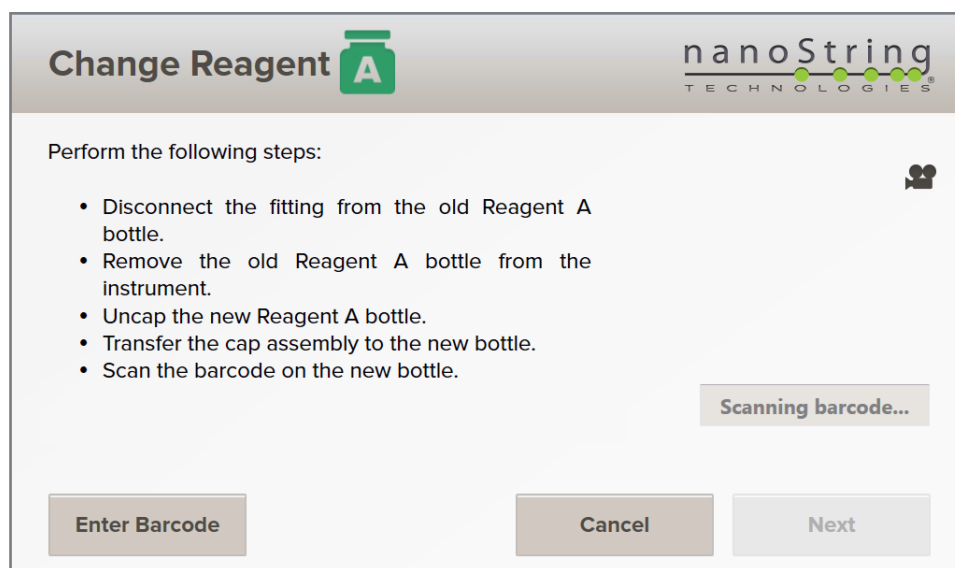

FIGURE 7.5 The first Change Reagent screen for Reagent A (green bottle).
The Change Reagent screen appears with instructions to replace Reagent A (green bottle) (**FIGURE 7.5**).
5. Unscrew the caps from both the new and old reagent bottles for Reagent A. Switch caps so that the coupling is attached to the new bottle (**FIGURE 7.5**). Use the other cap to seal the old bottle and dispose of it according to the rules and regulations of the local institution.